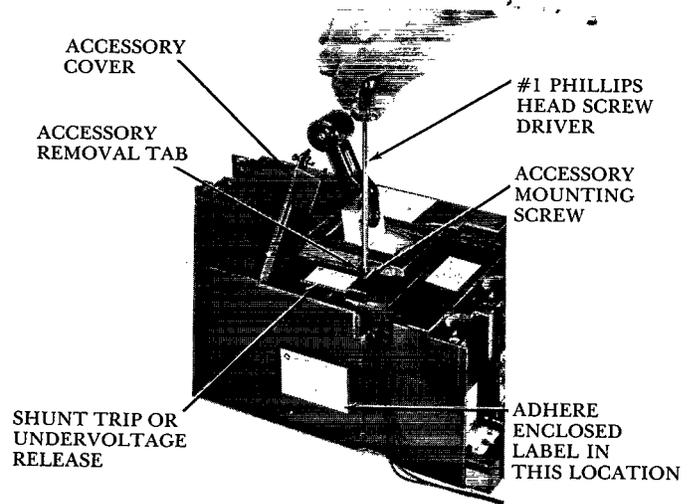

Figure 5. SK Frame accessory mounting compartment.
Remove the Phillips-head accessory-mounting screw in the recessed area in the lower-right corner of the accessory, as illustrated in Figure 5.
- If there are no wires exiting the left side of the breaker – Take hold of the accessory removal tab with pliers and, with a gentle rocking motion, pull upward until the accessory is released. The removal tab is located just above the accessory mounting screw, as shown in Figure 5.
Attach the rating label supplied with the new accessory to the left side of the circuit breaker, adjacent to the wire trough, as shown in Figure 5. It is a UL requirement that this label be properly displayed, to provide the electrical ratings and the proper identification and connection of the accessory.